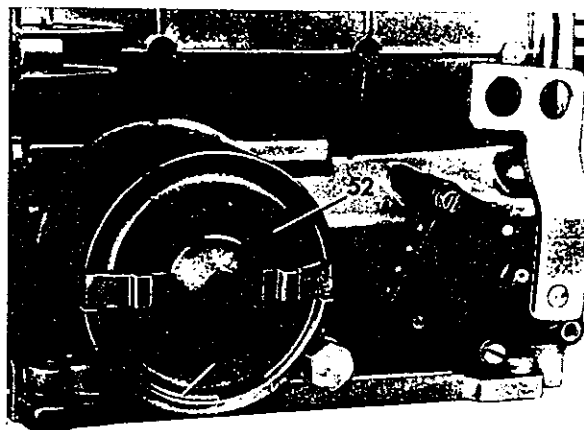

Fig. 22
31 Release brake band piston cover B 3, remove lock ring (51) and remove cover (52) using fixture 115 589 05 33 00 Fig. 22